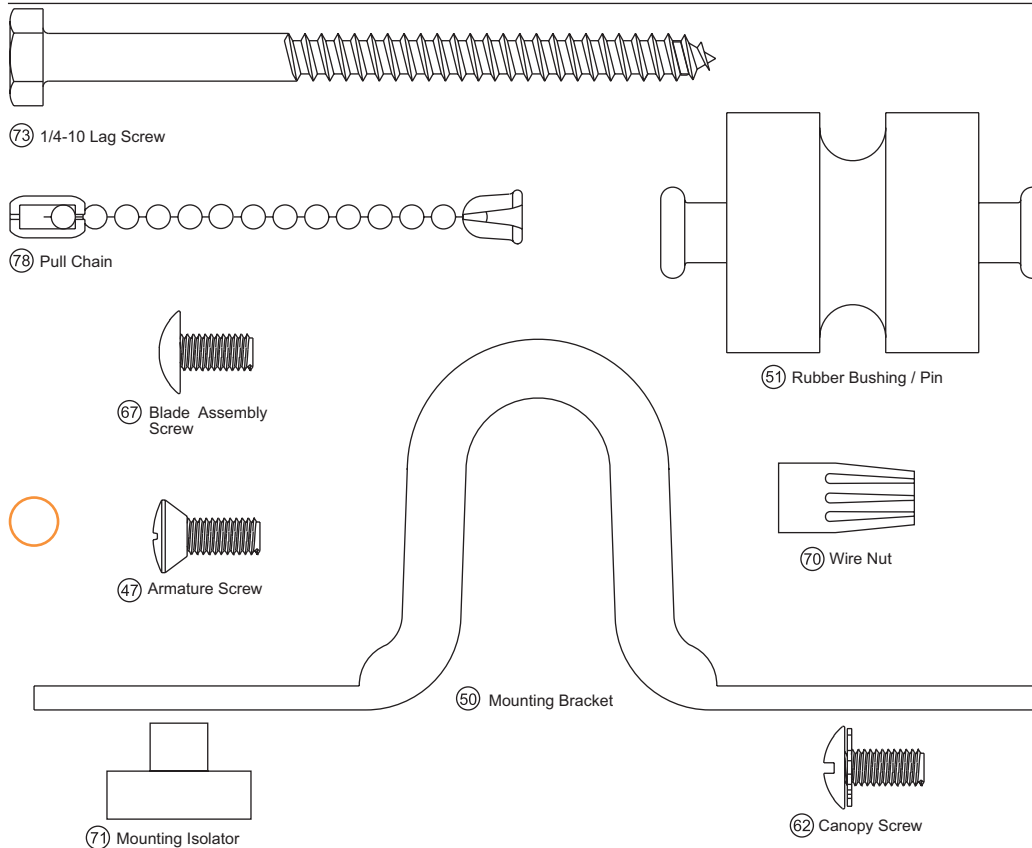

Figure 2
2. Check the sack parts. See Figure 2.
- Be sure to tighten the pipe nipple shown in Figure 2 into the fan, tighten the hanger bracket onto the pipe, and tighten the two set screws as described in sub-step 2 to prevent the fan from falling.
1. Take the hanger bracket from the sack parts and locate the pipe nipple (See Figure 2.). Feed the wires from the top of your motor through the pipe.